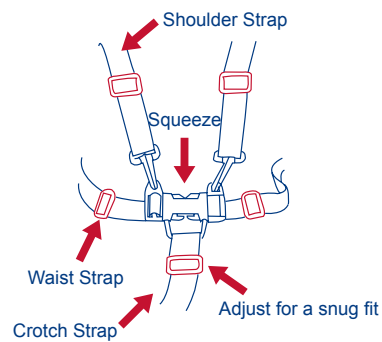

Fig. 14c
• Carefully place the child in the stroller seat and bring the safety harness around the child's waist and over the shoulders. Place the crotch strap between the child's legs. Insert the male end of each shoulder/waist belt into the buckle on the crotch strap. Tighten the harness to be snug around the child's waist and over the child's shoulders (Fig. 14c).